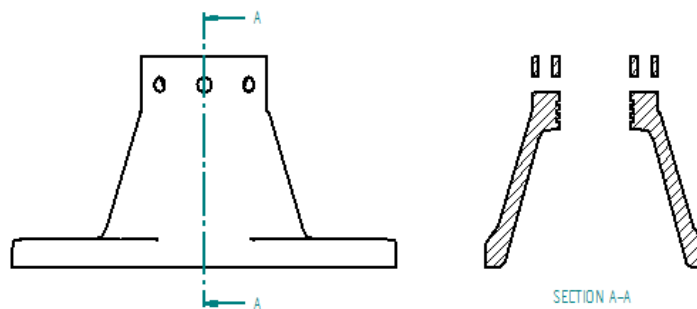

Figure 12-15 Section view displaying only the section area
The **Section Only** button in the ribbon bar is used to generate a section view that displays only that area of the model that is sectioned. Figure 12-15 shows the section view that displays only the section area of the model.
3. Choose the **Section Only** button from the ribbon bar and place the view by clicking on the desired side. The section view is placed, as shown in Figure 12-15.